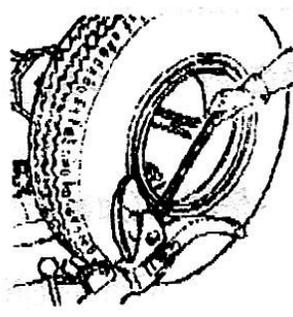

fig2.14
- 4) Sledge the press bar with crow in the opening and pull it with plate. Turn the tire in the anti-clockwise until the press bar to fall down (Fig2.14).